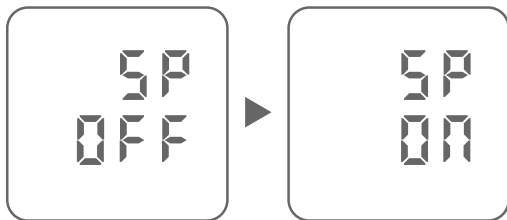

Figure 1.1
[Figure 1.1]
2. Press MEM/☑ to switch speaker settings between "SP ON" and "SP OFF". *[Figure 1.1]*